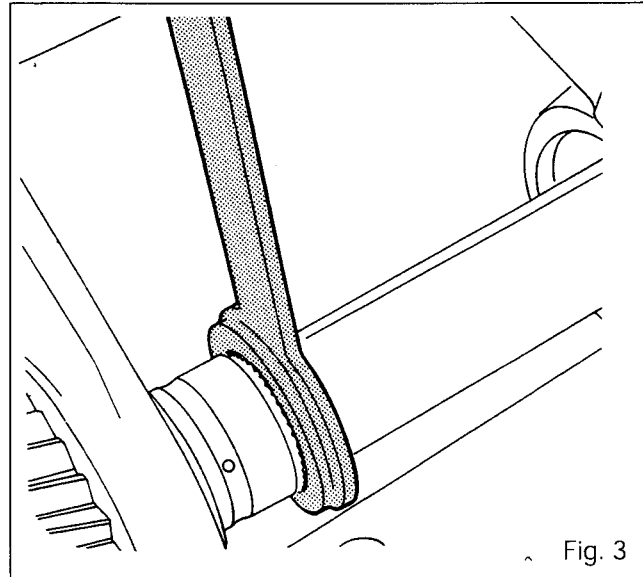
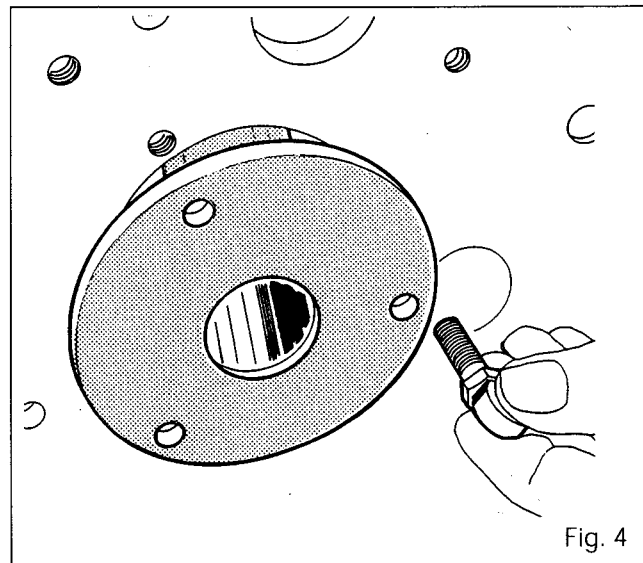
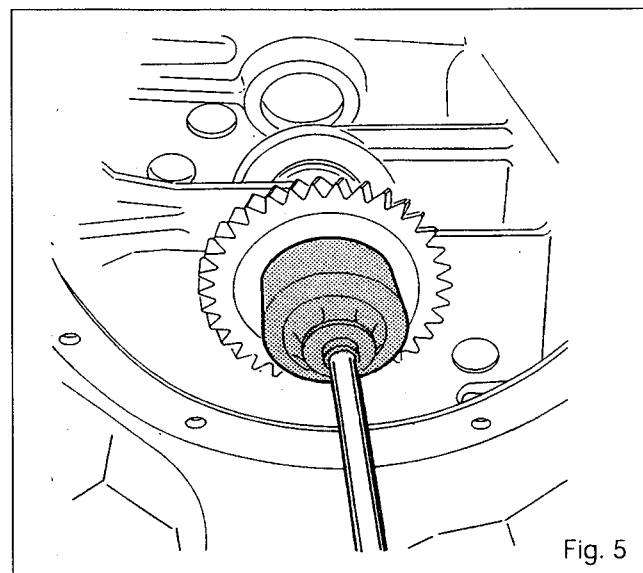

Fig. 3
Fig. 4
Fig. 5
7. Remove the circlip (26).
8. Remove the 3rd and 4th gear synchromesh (23). Mark the direction of fitting.
9. Position the retaining tool 3378082M1 (Fig. 3) and the locally manufactured holding sleeve for the mainshaft (69) (Fig. 4). (See part D).
10. Remove the oil feed pipe (71) and spring (72).
11. Unlock the nut (68) and loosen it using socket 3378010M1 (Fig. 5).
12. Remove the input gear (67) and cone (1).
13. Remove the washers (6) and the shims (3).
14. Remove the tool (see above) and the sleeve (Figures 3 and 4).
16. Remove the 1st - 2nd gear assembly and synchromesh (11) with bush (8). Withdraw the cups (16) and (2).
17. If necessary, remove the washer with flats (77), extract cone (1) (17) and remove the retaining ring (70).
27. Fit the retaining tool and the locally manufactured holding sleeve (Figures 3 and 4).
28. Fit the shims (3), increased in thickness in procedure 23, between the washers (6).
29. Fit the cone (1) onto the gear (67), (if it was removed).
30. Fit the gear (67) onto the shaft (69).
31. Fit the nut (68) using socket 3378010M1. Tighten to a torque of between 130 and 170 Nm (Fig. 5).
32. Shim the shaft. Remove tool and the sleeve (Figures 3 and 4).
38. Fit the retaining tool and the holding sleeve (Figures 3 and 4).
39. Unlock nut (68). Remove the gear (67).
40. Fit the shims (3) selected during procedure 37 between the two washers (6).